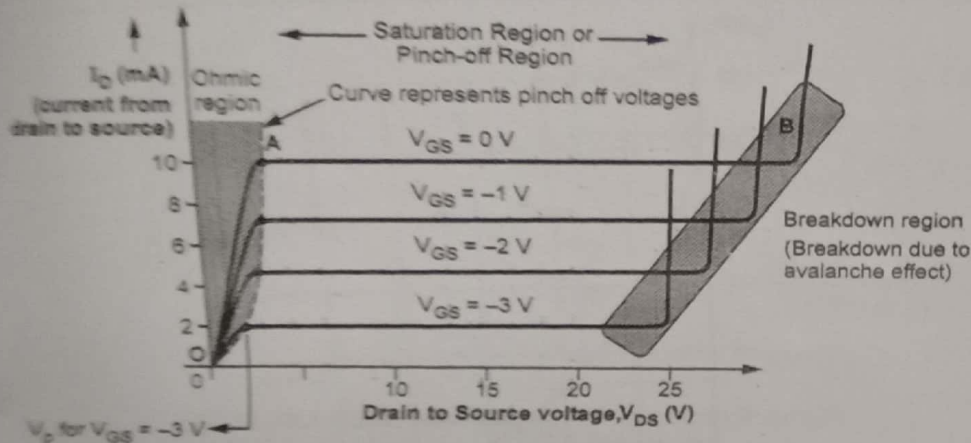
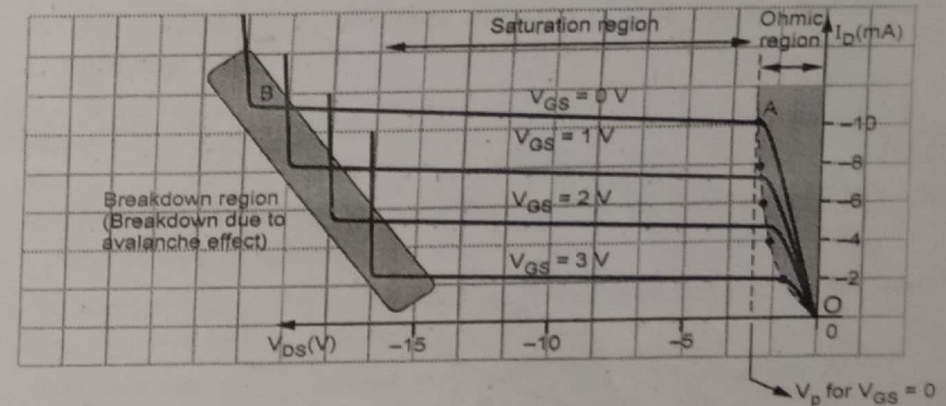

Fig. Q.9.1 Drain V-I characteristics of n-channel JFET
Fig. Q.10.1 Drain V-I characteristics of p-channel JFET
Ans. : • Fig. Q.9.1 shows the drain characteristics of a n-channel JFET. The curves represent relationship between the drain current and drain to source voltage for different values of V_{GS} .
1. **Ohmic Region** : Shown by curve OA in Fig. Q.9.1. In this region the drain current increases linearly with the increase in drain to source voltage V_{DS} . here, JFET acts as a simple resistor.
called 'Pinch-Off Voltage', V_p . From Fig. Q.9.1 it can be observed that for more negative values of V_{GS} , the pinch-off voltage is reached at lesser values of I_D .
- The Fig. Q.10.1 shows the drain characteristics of p-channel JFET. Note the similarities between these characteristics and those shown for n-channel JFET in Fig. Q.9.1.